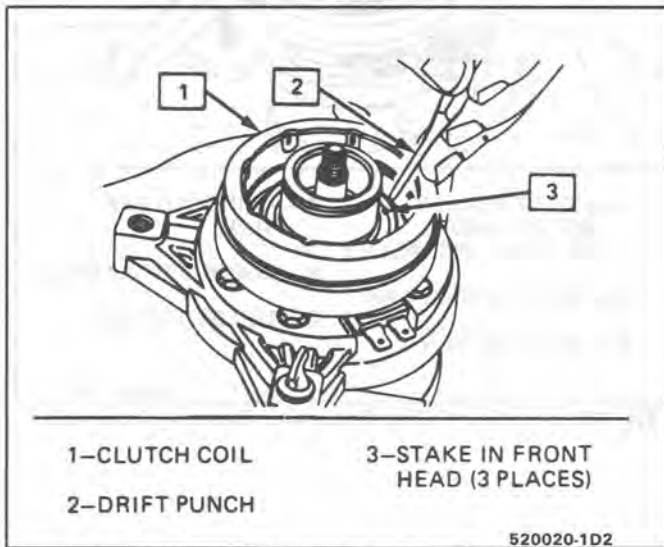

Fig. 20 Staking Clutch Coil To Front Head
5. When coil is fully seated on the front head, use a 1/8" diameter drift punch and stake the front head at three (3) places 120° apart (Fig. 20), to ensure clutch coil remains in position.